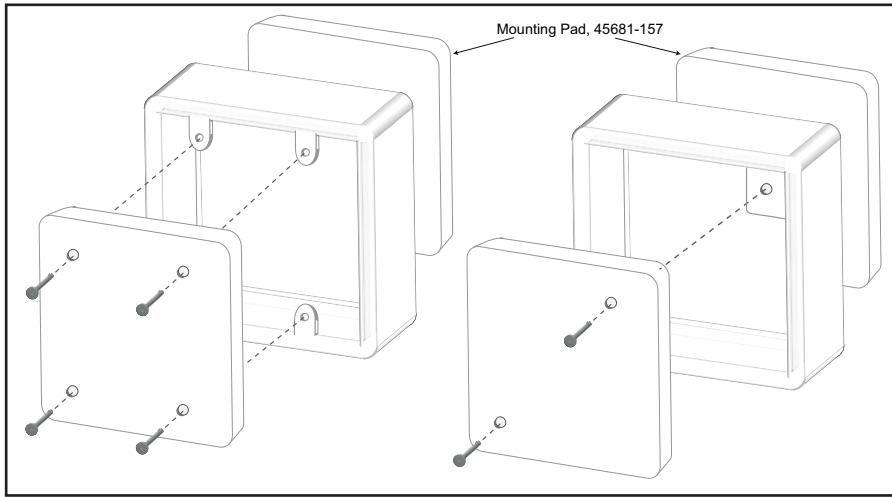

Fig. 1- Mounting the XP95A 120V AC I/O Module
2. Drill holes in the fascia plate corresponding to the holes on the mounting box selected (Fig. 1).